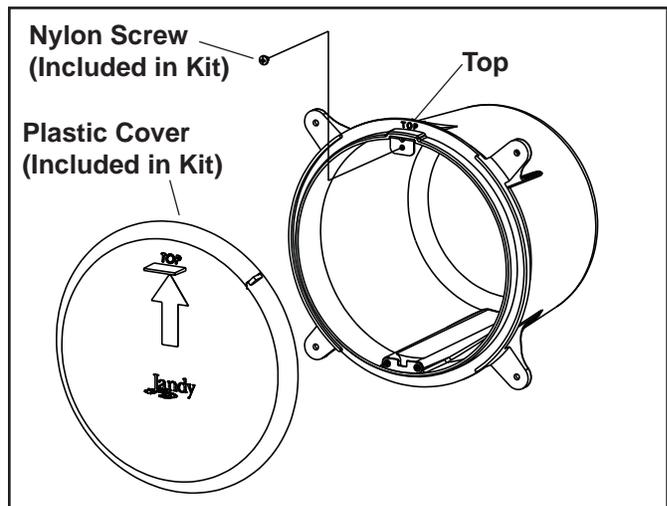

Figure 4. Plastic Niche Cover and Nylon Screw for Plastic Niche
- g. Remove the nylon screw and attach plastic niche cover to opening of niche prior to the concrete/gunite pouring/shooting operation. See Figure 4. The cover prevents concrete or gunite from entering the inside of the niche, during the pouring/shooting operation.